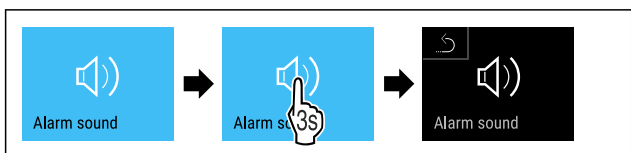

Fig. 93
- ▶ Complete steps (see Fig. 93) .